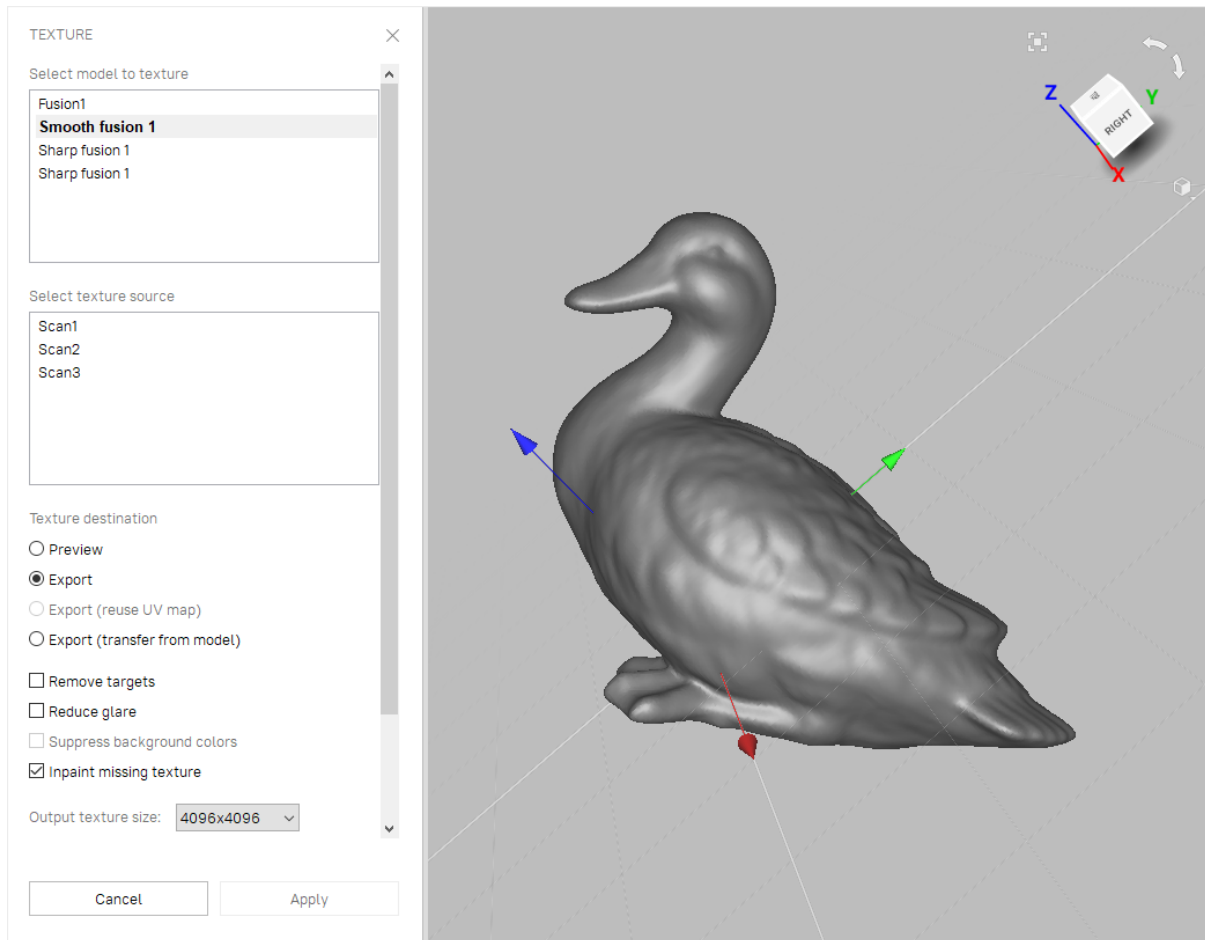

Figure 119: Choosing a texture-application method and adjusting its parameters.
2. Choose a model from the first list (see Figure 119); Artec Studio will apply the textures to this model.